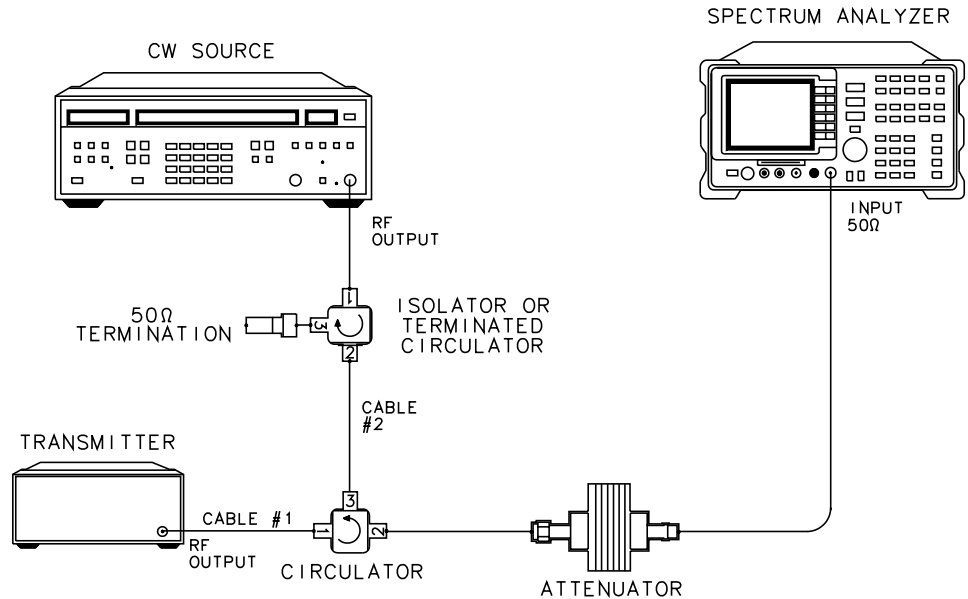

Figure 29 Test Setup for Intermodulation Attenuation - TX Band
- 9 Read the text and make the test setup connections described in the displayed text. Refer to Figure 29 on page 75 for the test setup.